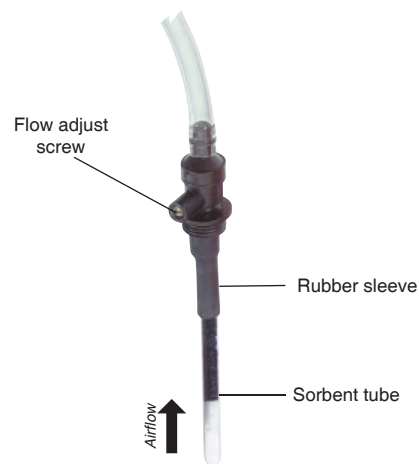

Figure 3. Single Adjustable Tube Holder with Sample Tube
Using Single Adjustable Tube Holder (Figure 3)
- b. Insert an opened sorbent tube into the rubber sleeve (Figure 3) of the low flow tube holder **with the arrow on the tube pointing toward the tube holder**.
5. Loosen the brass flow adjust screw (Figure 3) on the tube holder. Adjust the flow rate by turning the flow adjust screw (**counterclockwise to increase, clockwise to decrease**) until the flowmeter indicates the desired flow. Take a minimum of three readings and record the average flow rate, as per OSHA/NIOSH instructions.